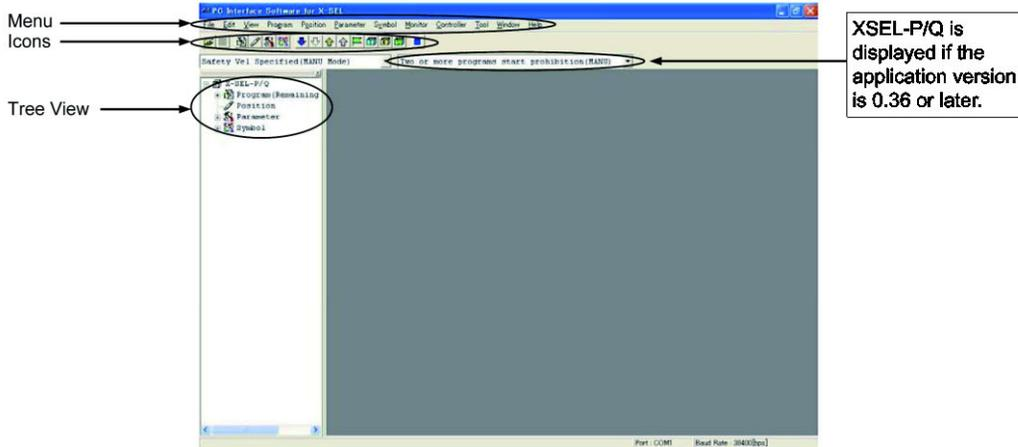

Fig. 3.2 Online Screen (X-SEL-P/Q, R/S and RA/SA Controllers)
(2) X-SEL-P/Q, R/S, RA/SA, TTA and MSEL controllers
When this software has been started, the main window in Fig. 3.2 will open showing the menu items with icons on the tool bar in the case of the X-SEL-P/Q, R/S and TTA controllers. The tree view appearing on the left side of the window can be displayed by clicking View (V) from the menu bar and then selecting Tree View (T). (Initial window: Main menu)
- (4) X-SEL-PX/QX, RX/SX, RXD/SXD, RAX/SAX, RAXD/SAXD and MSEL-PCX/PGX controllers
When this software has been started, the main window in Fig. 3.2 will open showing the menu items with icons on the tool bar in the case of the X-SEL-PX/QX, RX/SX, RXD/SXD and MSEL-PCX/PGX controllers. The tree view appearing on the left side of the window can be displayed by clicking View (V) from the menu bar and then selecting Tree View (T). (Initial window: Main menu)